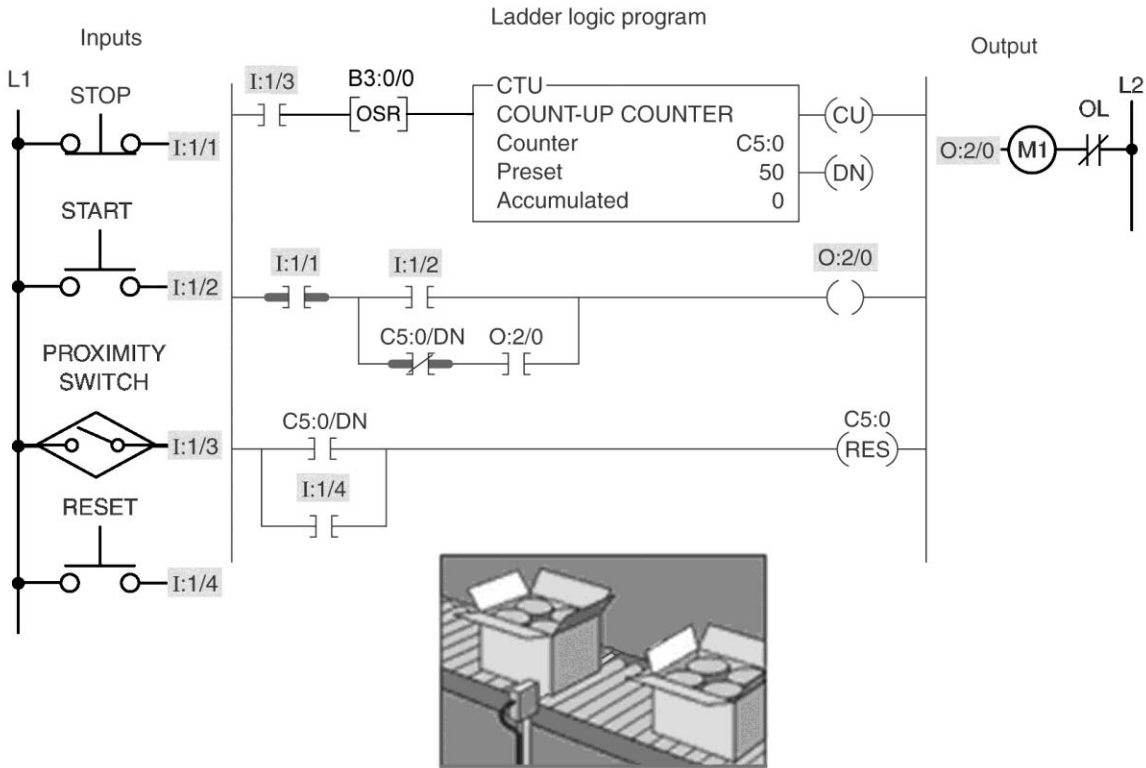

Figure 8-10 Case counting program for assignment 4.
4) The case counting program of Figure 8-10 is described in the text. Prepare an I/O connection diagram and ladder logic program for this process. Use addresses that apply to your PLC. Enter the program into the PLC, and prove its operation.